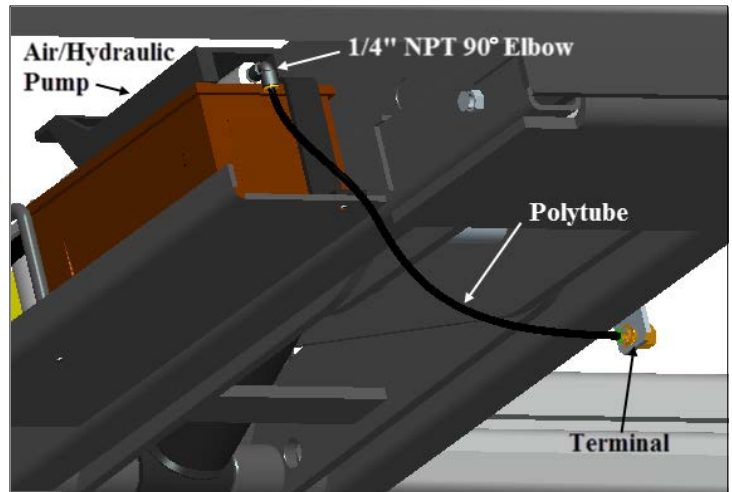

Figure 5-Air Hose Routing
8. Remove the thread protector from the air inlet of the pump, and install the 1/4" NPT 90° elbow from accessory kit on to the air/hydraulic pump. Then route the polytube underneath Jackbeam from the elbow to the terminal on bracket. See **Figure 5**.